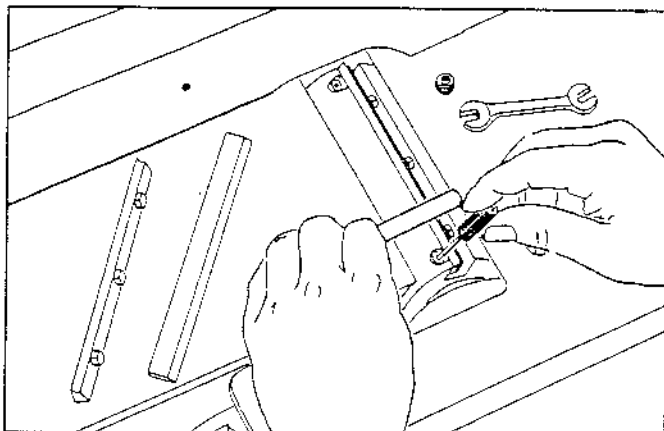

Figure 8
3. A rectangular setting gauge. One of its uses is to test the concentricity of the knives as explained below, by placing it on the outfeed table so the plain end projects over the head. See figure 8, page 8.